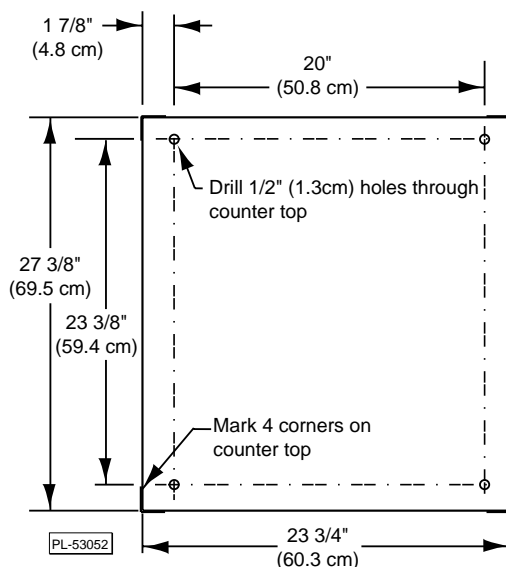

Fig. 1
2. Remove the steamer and drill $\frac{1}{2}$ " (1.3 cm) holes as indicated in Fig. 1.